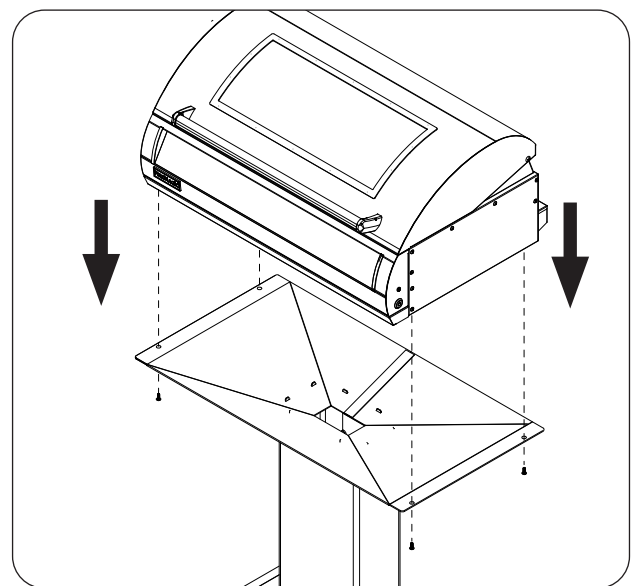

Fig. 31-3 Fasten grill to post base assembly
- Carefully place and align the electric grill onto the top of the post assembly. Fasten the electric grill to the post base assembly using the 4 included Phillips-head screws. See Fig. 31-3.